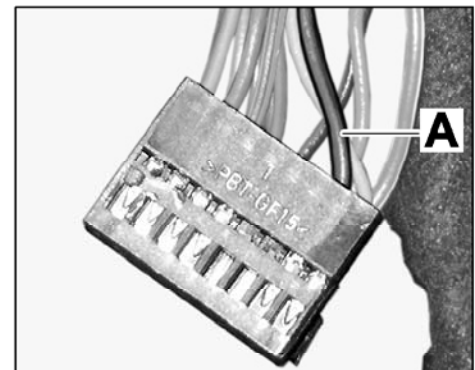

Figure 7
- 3.5.1 Press socket contact of line RD/GN 0.352 out of **chamber 2** (30G) ⇒ *Figure 7 -A-*.